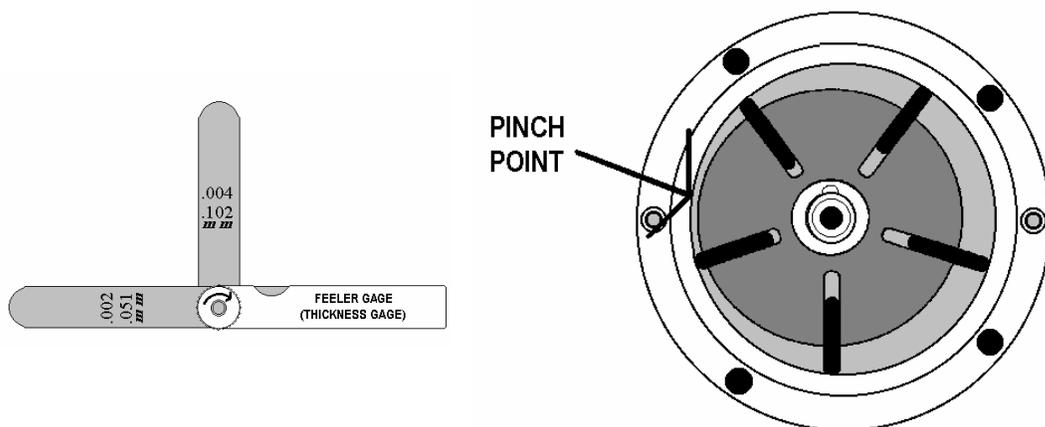

Figure 4
8. Carefully install the new Carbon rotor onto the shaft and insert the new vanes into the rotor. **NOTE: There should not be force required to slip the rotor assembly on to the shaft or the vanes into the rotor. Rotor and vanes are reversible. Make sure that the rotor does not extend beyond the pump housing. After the new rotor is installed, measure the gap (pinch point) with a thickness gage (See Figure 4). The gap tolerance should be no less than .002 (two thousands) and no more than .004 (four thousands). The pinch point is not field adjustable and if the unit does not fall within this tolerance, the VP1000 Motor Assembly should be replaced.**